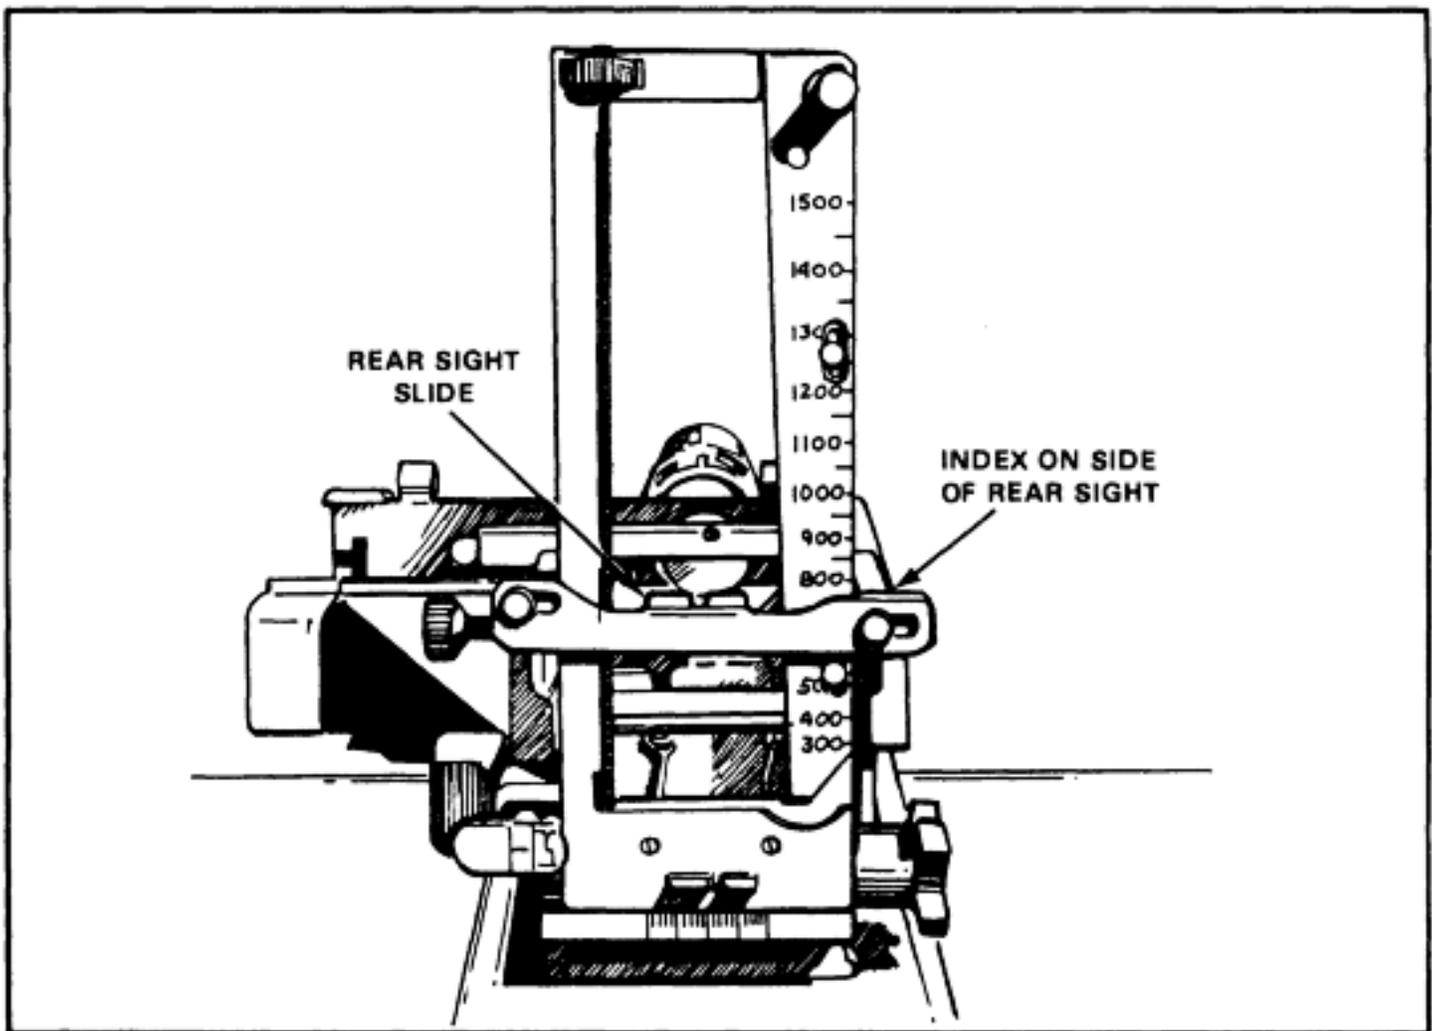

Figure 5-10. Rear sight adjustments.
b. Sight Setting and Laying Exercises. The first show each exercise before beginning instruction. exercise teaches the soldier how to set the rear sight quickly and correctly (Figure 5-10). The second builds accuracy and speed in laying the gun on an aiming point, and allows extra practice in sight setting. Explain and show each exercise before beginning instruction.